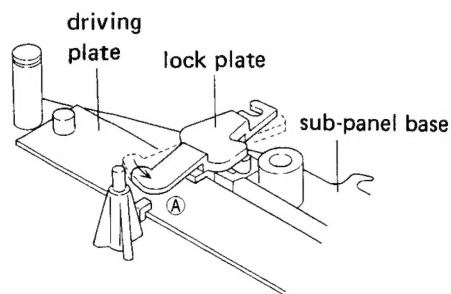

Fig. 2-12 Cam assembly attachment
The cam assembly is attached by letting the lock plate go in the direction ① as shown in figure 2-12.